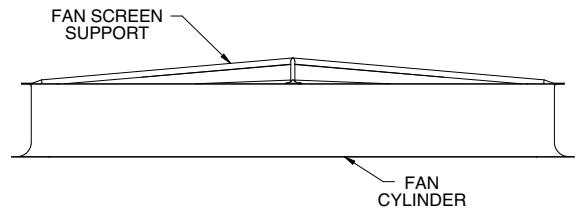

Figure 13 – Support Frame Installation
2. The fan screen is supported from underneath by an "X" shaped support frame. Set the support frame across the top of the discharge cylinder (See Figure 13), and fasten to cylinder with 3/8" (10mm) bolts.